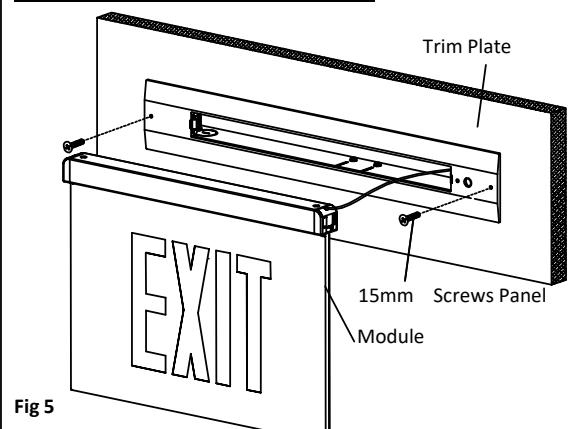

Fig 5
7. Assemble trim plate back using M3-15mm screws. (see Fig 5)